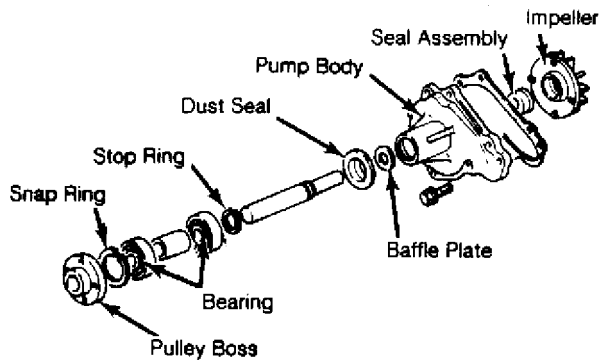

Fig. 35: Exploded View of Water Pump
- 2) While supporting pump body, apply pressure to rear end of shaft to press shaft, spacer, and bearing assembly out through front of pump body. See Fig. 35.